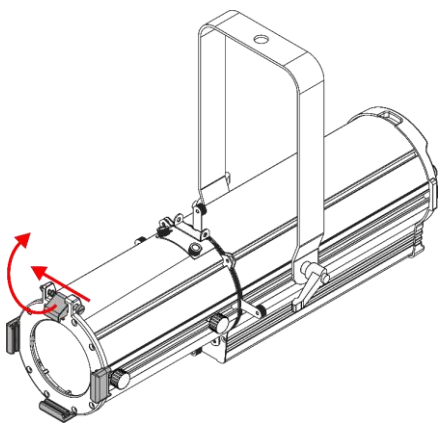
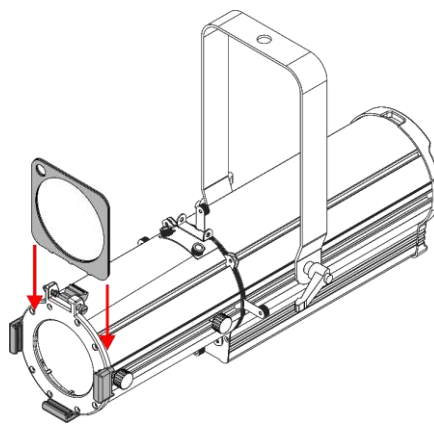

Fig. 12
Fig. 13
- 01) Push the **spring-loaded screw (08)** and at the same time lift the **color frame clip (09)** and flip it backwards (see Fig. 12).
- 02) Insert a color gel or a diffusion filter into the **color frame (23)**.
- 03) Insert the **color frame (23)** into the **color frame holders (06)** (see Fig. 13).